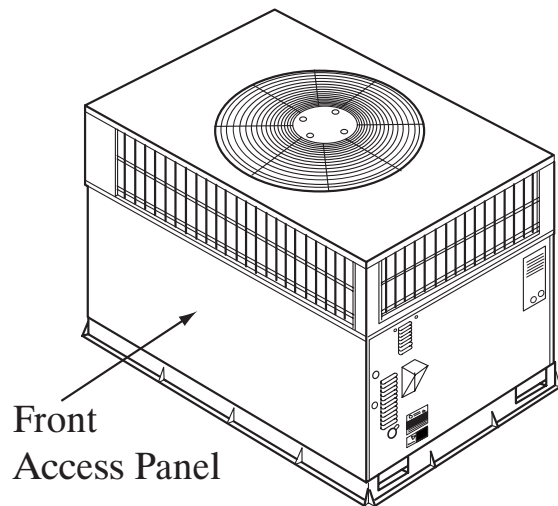

Fig. 19 - Unit Access Panel
1. Remove unit access panel (See Fig. 19).
3. Remove unit access panel (See Fig. 19).